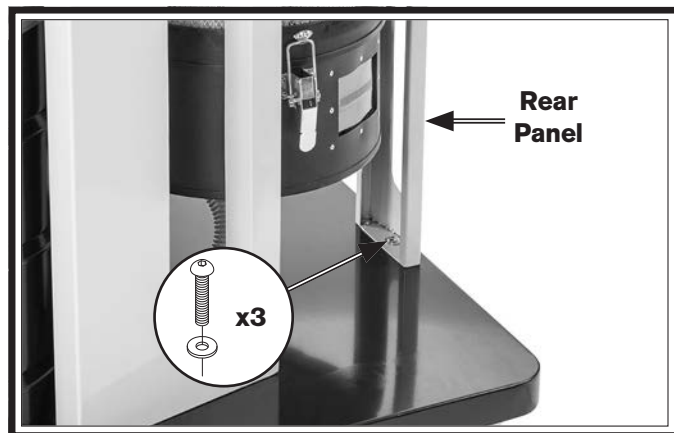

Figure 74. Rear panel attached to base.
11. While assistant supports rear panel, attach rear panel to base with (3) button head cap screws and flat washers removed in **Step 7** (see **Figure 74**).